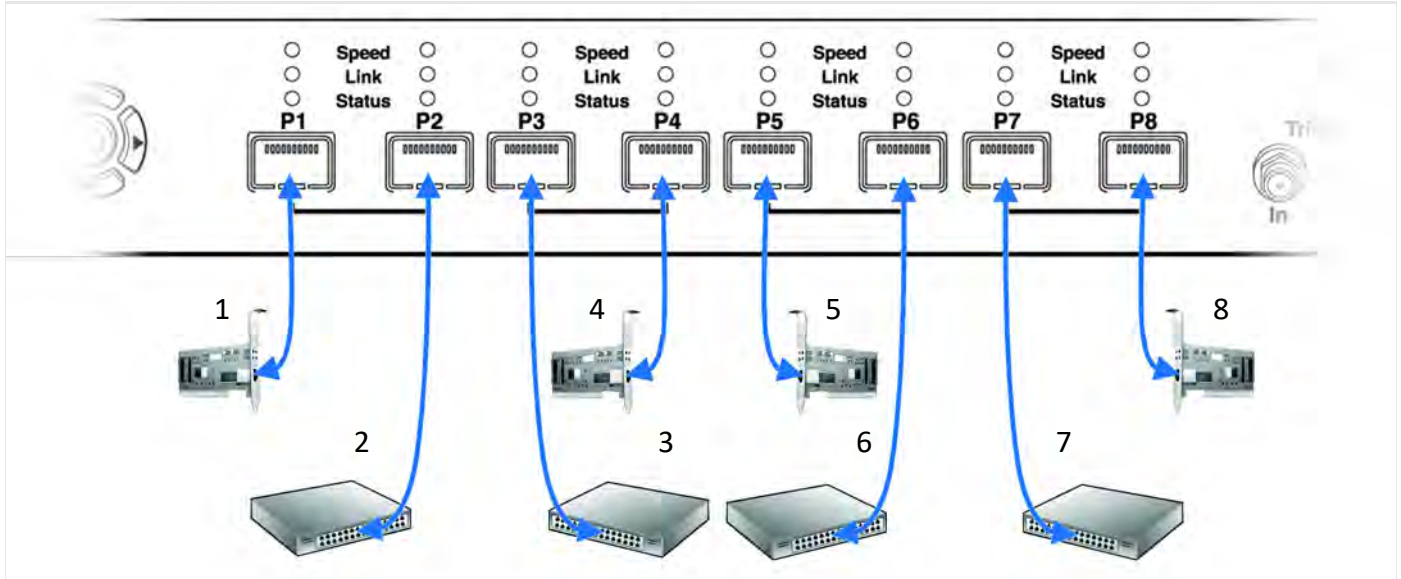

Figure 2.17: T328 Analyzer with SFP+ Connections
4. Connect your devices under test to port pairs P1/P2, P3/P4, P5/P6 and/or P7/P8. See Figure 2.17.